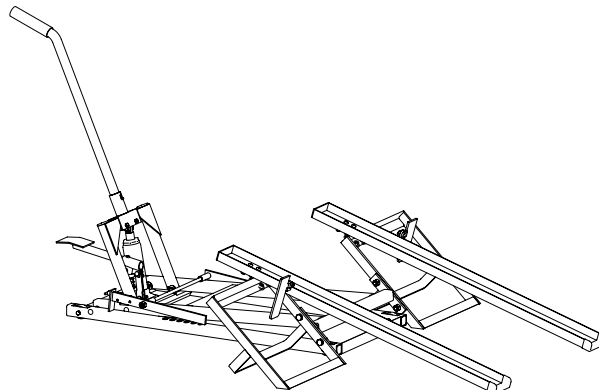

Figure 6 - Final assembly
6. Lower the Lawn Mower Lift to the ground, and swivel the Stopping Plates outward (see figure 6).